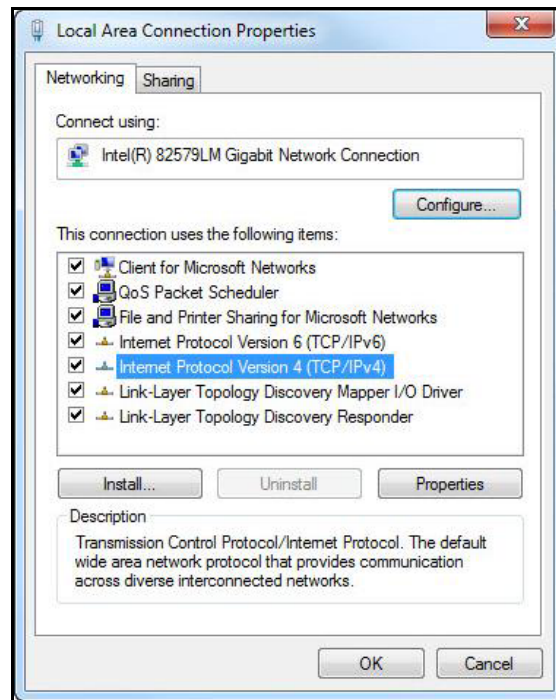

Figure 5. Local Area Connection Properties Dialog Box
4. Highlight Internet Protocol Version 4 (TCP/IPv4) as shown in Figure 5, and click Properties. The properties dialog box appears.